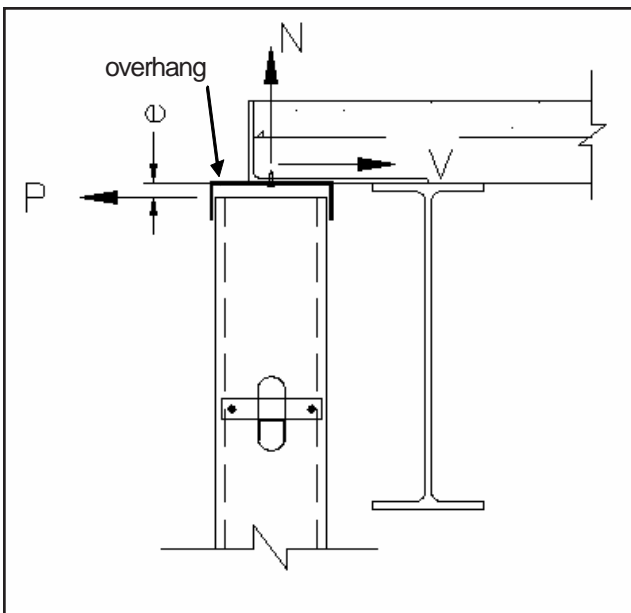

FIGURE 3
2. Issue of overhang of the structure - Limit the outward and upward deflection to 1/8" for serviceability and prevent stud from disengaging. Design the fasteners to the structure for direct shear from the stud reaction and for indirect tension due to the eccentricity of the load and the pivot point of the track. See figure 3.